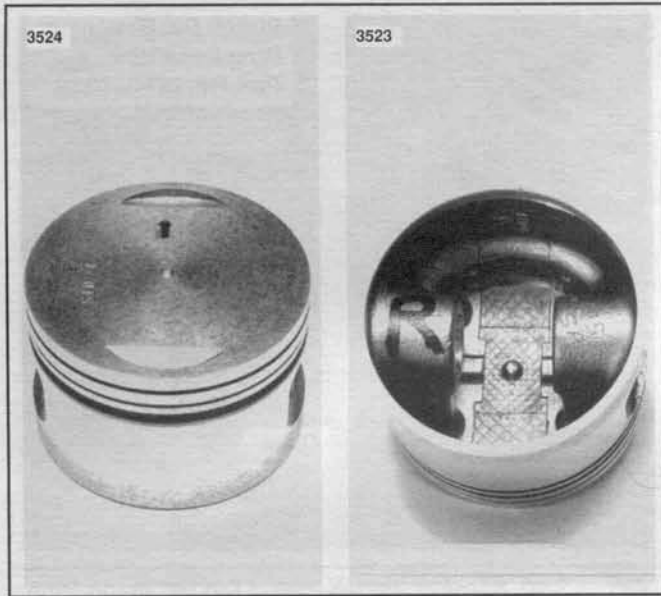

Figure 3-34. Piston Marking
- See Figure 3-34. Mark the piston by marking an "F" or "R" for front or rear cylinder, on the piston pin boss as shown.